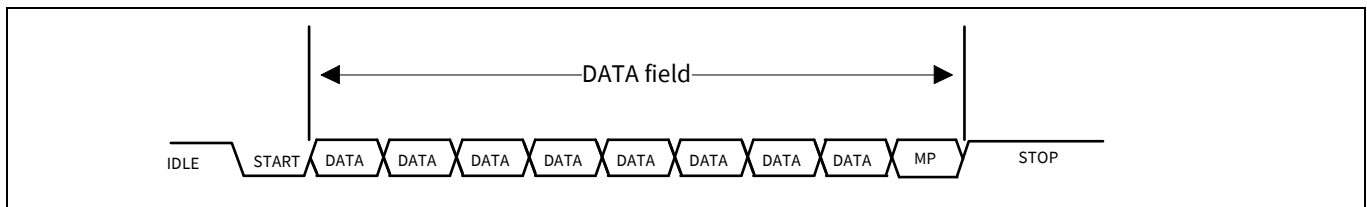

Figure 23-28. UART MP address and data frame
- Using 9-bit data field, with the ninth bit as address/data flag (MP bit). When set high, it indicates an address byte; when set low it indicates a data byte. A data frame is illustrated in Figure 23-28.